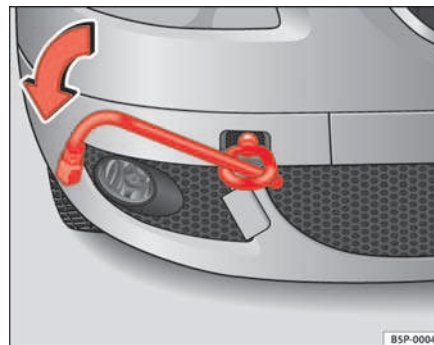
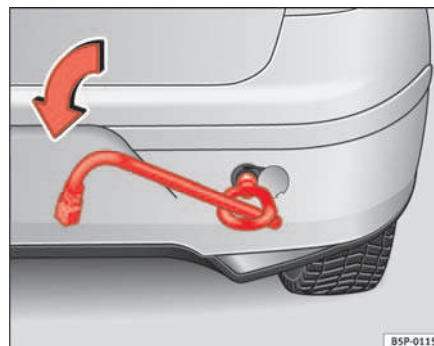

Fig. 194 The front right section of the vehicle: Fitting the front towing eye
Fig. 195 Fitting the towing eye to the rear of the vehicle
- Screw the towing eye as shown by arrow *anti-clockwise* to the limit position in the front ⇒ page 254, fig. 194 or rear ⇒ page 254, fig. 195 threaded hole.